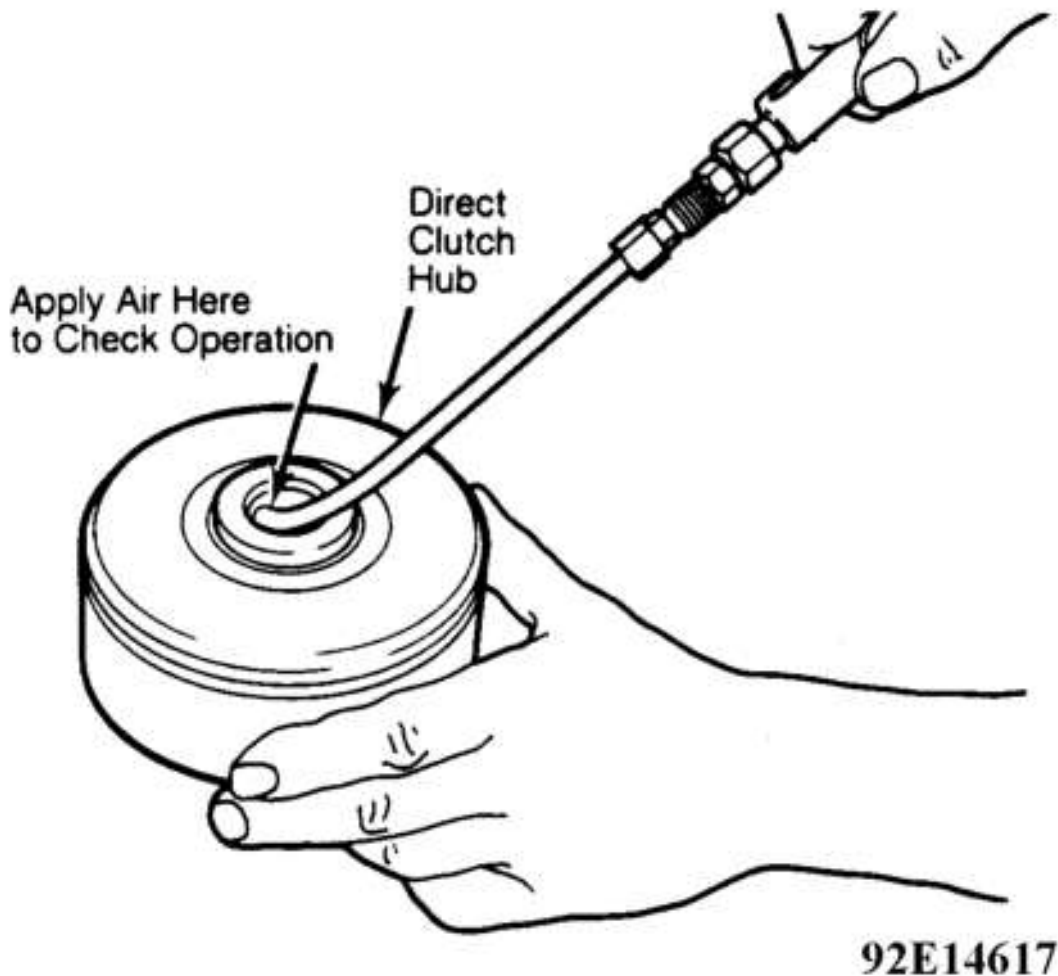

Fig. 34: Checking Direct Clutch Operation
6. To check clutch for proper operation, use compressed air at 30 psi (2.1 kg/cm²). See **Fig. 34**. Clutch should be heard and felt to apply smoothly and without leakage.